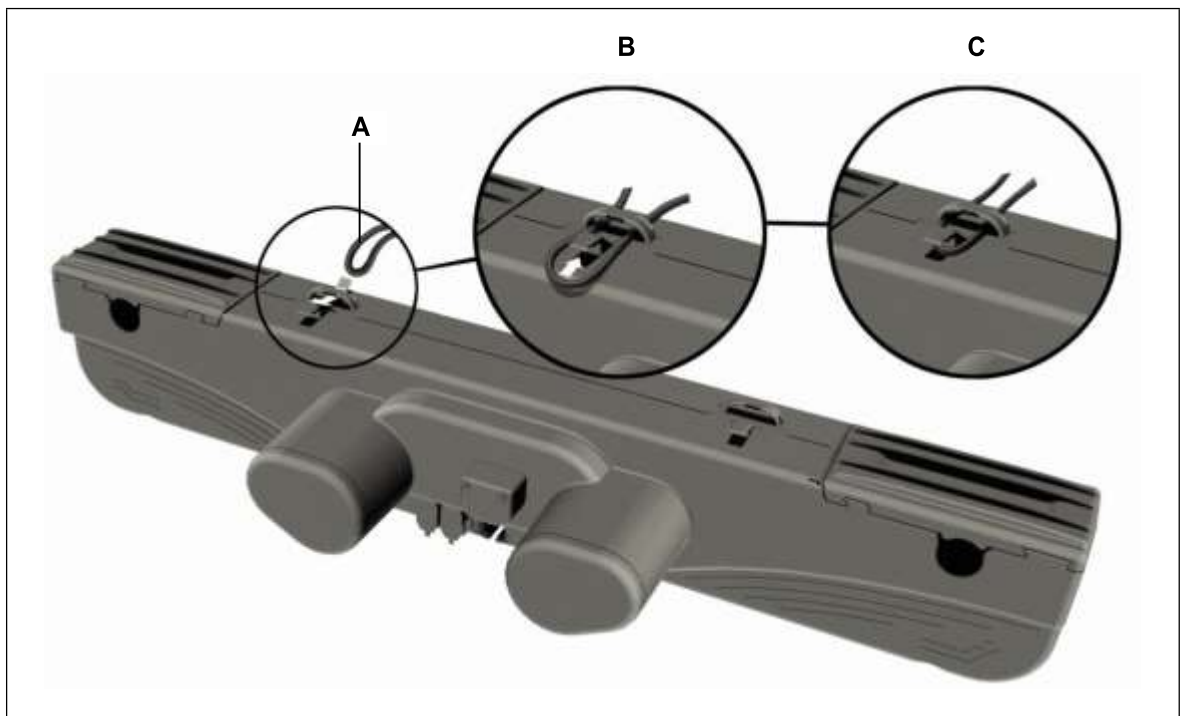

Figure 14 Looping the cable through the strain relief mechanism
- 2 Loop the handset cable through the strain relief catch and pull back gently on the loop as illustrated in Figure 14.